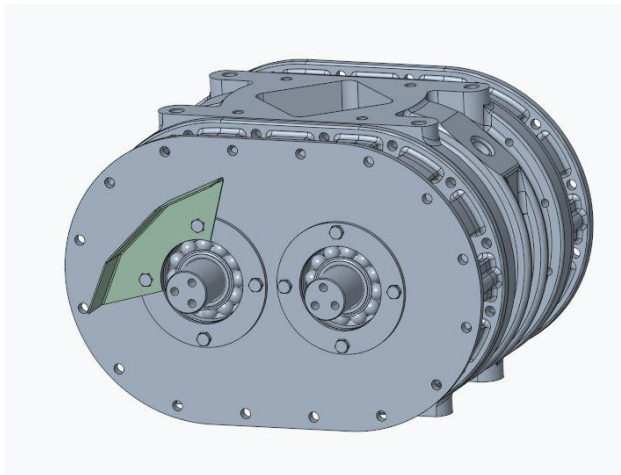

Fig. 3
11. Place bearing retainers (5) onto NDE side plate (23). Place oil deflector (31) over the two bearing retainer holes in the direction closest to where the breather (35) will be located as shown in figure 3. Apply Loctite 243 to 8 bolts (10) and tighten into NDE side plate to 15 lb-ft (20 N-m) using a 13mm wrench or socket.